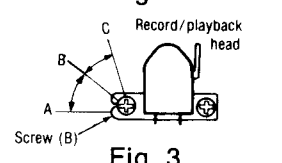
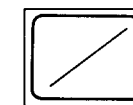

Fig. 3
Fig. 6
- Playback the 8kHz signal from the test tape (QZZCFM). Adjust screw (B) in fig. 3 for maximum output L-CH and R-CH levels. When the output levels of L-CH and R-CH are not at maximum at the same point adjust as follows.
- Turn screw (B) shown in fig. 3 to find angles A and C (points where peak output levels for left and right channels are obtained). Then, locate angle B between angles A and C, i.e., and point where L-CH and R-CH outputs are balanced. (Refer to figs. 3 and 4.)
- Playback the 8kHz signal from the test tape (QZZCFM). Adjust screw (B) shown in fig. 3 so that pointers of the two VTVMs swing to maximum and a lissajous waveform as illustrated in fig. 6 is obtained on the oscilloscope.